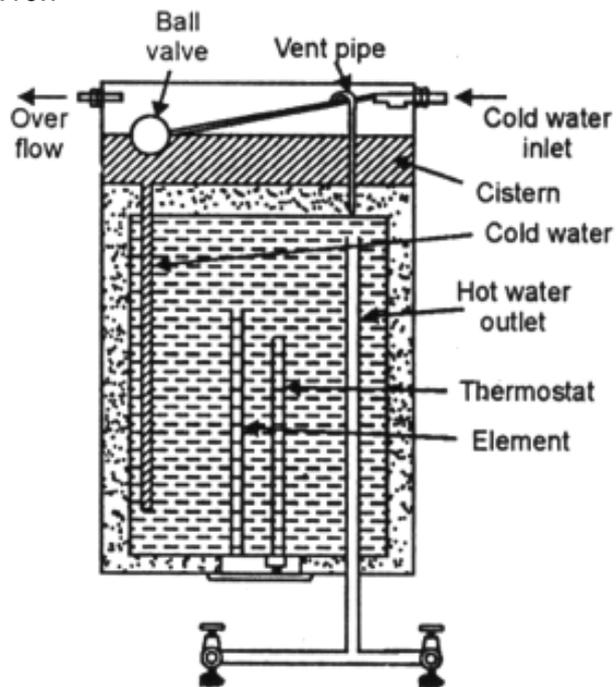

Fig. 10.7 - Pressure type storage water heater
**Pressure type :** When hot water is required at more than one points (e.g, multi storied building) this type is used. It holds water of high pressure, (more than 300 psi) it is called pressure type. The construction of this type is shown in Fig.10.7